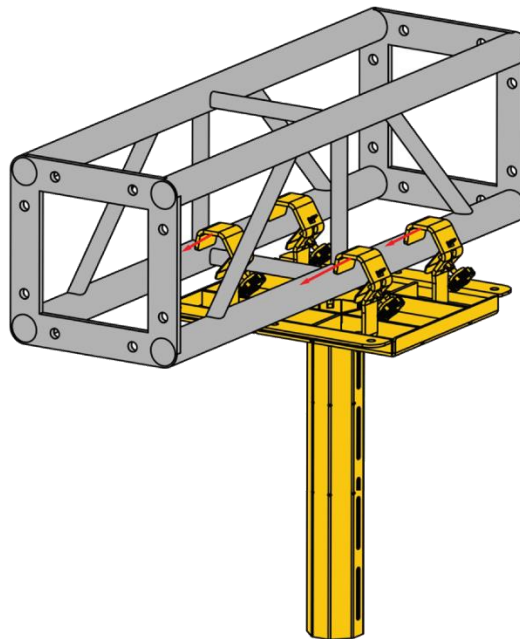

Figure 83: Step 3B-2
2. Hook the truss clamps to the truss structure, as shown in **Figure 83**.